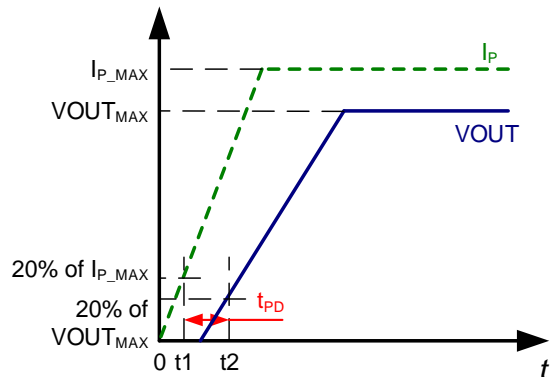

Figure 6: Propagation Delay (t_{PD})
2. t_2 : V_{OUT} reaches 20% of V_{OUTMAX} (see Figure 6).